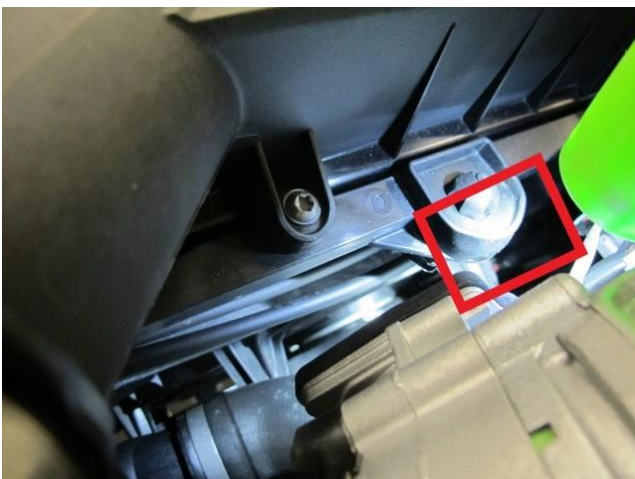

Figure 3
- 5) Referring to Figure 3 (Rear of radiator cowl) - Visually check the cooling fan is spinning / operating